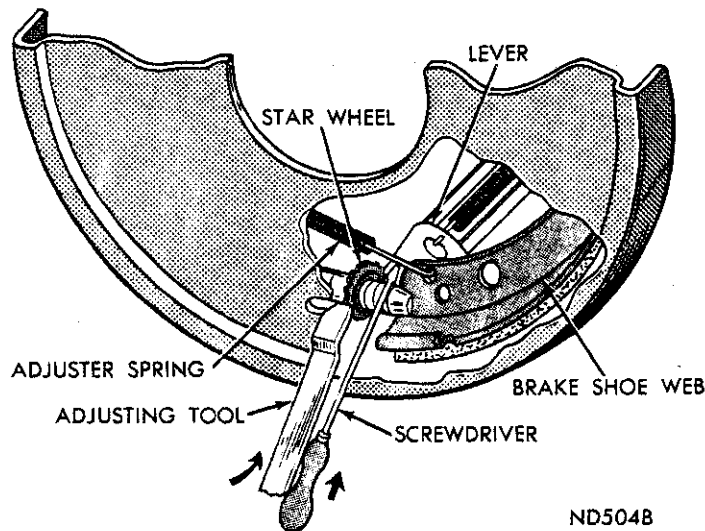

Fig. 1—Adjusting Brakes
adjusters. The lower ends of the brake shoes are connected by a tubular star wheel adjusting screw (Fig. 1).
(4) Insert adjusting tool C-3784, into star wheel of adjusting screw. Move handle to tool upward until a slight drag is felt when road wheel is rotated.
(5) Insert a thin screwdriver into brake adjusting hole and push adjusting lever out of engagement with star wheel. (Care should be taken so as not to bend adjusting lever (Fig. 1), while holding adjusting lever out of engagement, back off star wheel to insure a